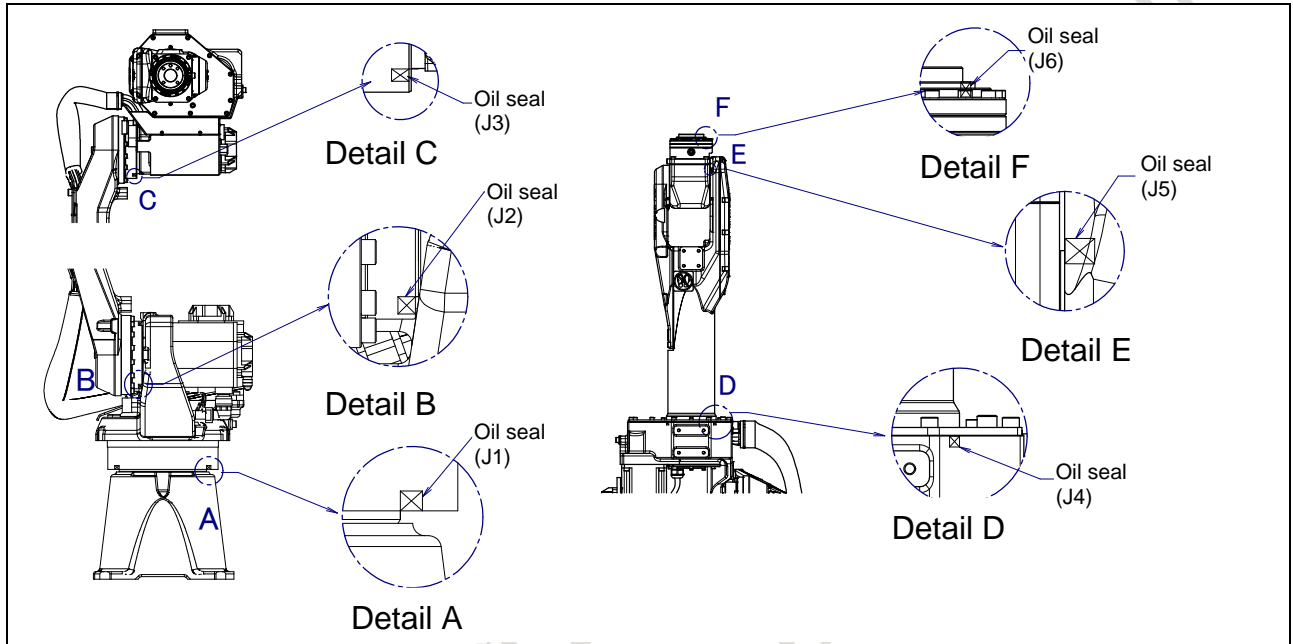

Fig. 2.2.1 (a) Check parts of oil seal
- Oil might accumulate on the outside of the seal lip depending on the movement condition or environment of the axis. If the oil viscosity changes, the oil might drip depending on the axis movement. To prevent oil spots, be sure to wipe away any accumulated oil under the axis components in Fig. 2.2.1 (a) before you operate the robot.